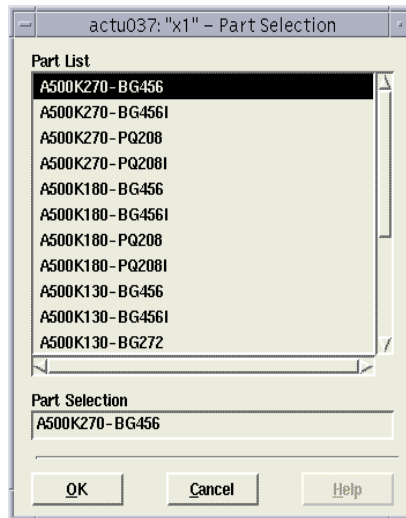

Figure 2-11. Part Selection Browser
1. **Click the ProASIC button in the Input area of the Design Executive window.** The Part Selection file browser is displayed, as shown in Figure 2-11.